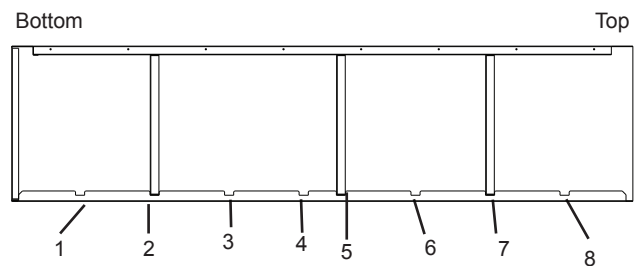

Figure 4.1
- Note:** Shelf D must be installed location 5, as shown in Figure 4.1, to allow door to lock. Install bottom shelf first.
- Attach using (2) AA, (2) CC, and (2) DD in square mounting holes as shown.
- Repeat until all (3) shelves are in place.